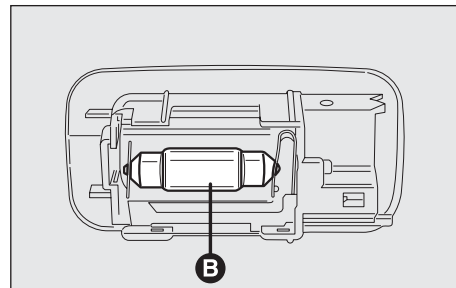

fig. 59
- Remove the bulb (**B-fig. 59**) pulling it outwards and releasing it from the side contacts.